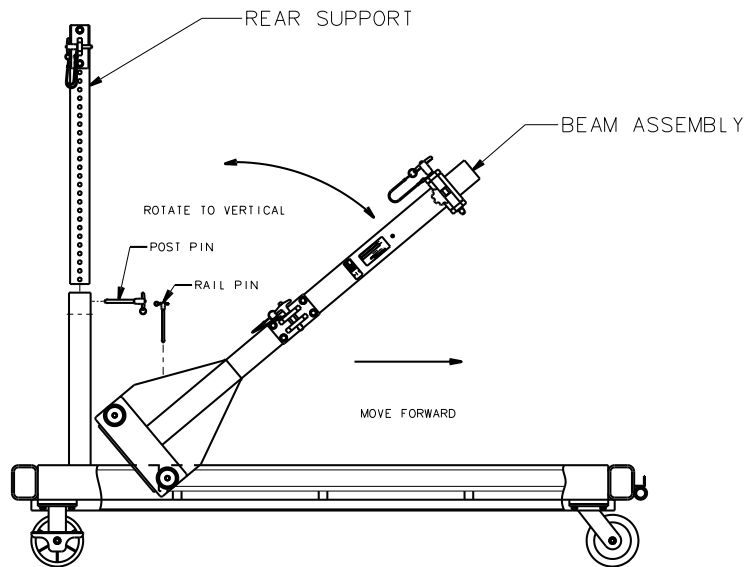

FIGURE 1
- c. Rotate beam assembly to allow the lead rollers to travel into the support rails in the base and tilt main post assembly until the main post assembly is in the vertical position. (See **Figure 1**).